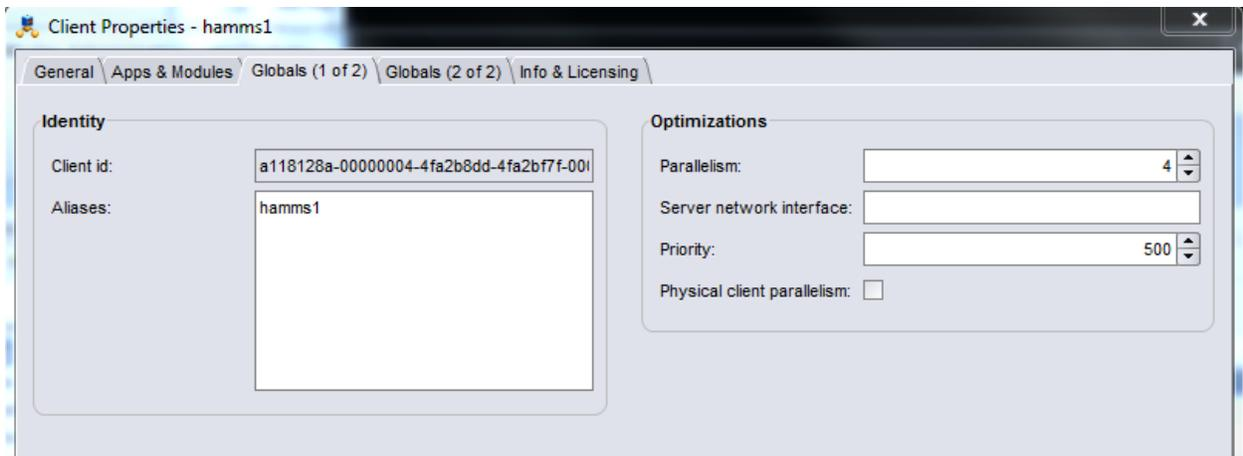

Figure 16: NetWorker Client Properties - Globals (1 of 2) tab, default.
- a) The default Aliases list should look as follows (example using hamms1). (See figure 16):